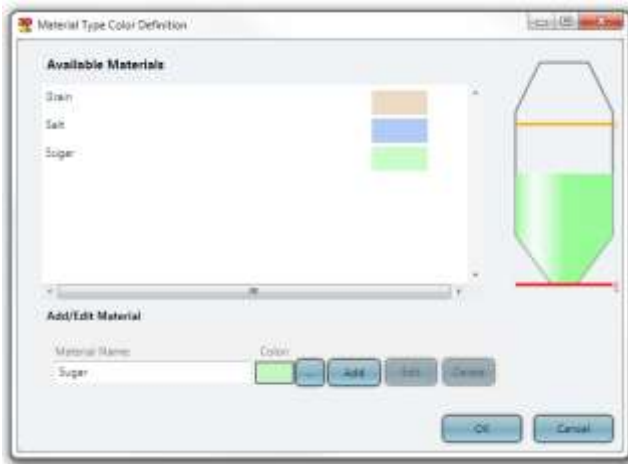

Figure 29: Material Selection Window
- **Material** button: allows choosing the material contained in the vessel. Pressing the button brings up the Material selection window which allows managing of the materials with their names and colors, where the material can be chosen out of a pre-defined list of materials and their representing colors (Figure 29: Material Selection Window).